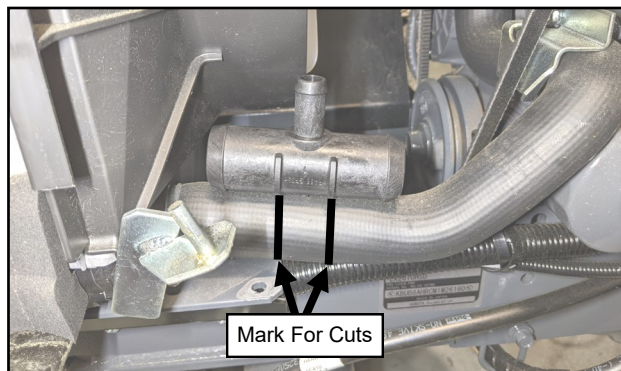

Fig. 15.3 (Mark The Lower Radiator Hose)
- 15.3 Using the supplied T fitting as a guide, mark the lower radiator hose for the necessary cuts. See Figure 15.3. Make sure there will be enough hose between the lower radiator and the T fitting, as well as enough hose between the T fitting and the bend in the hose.